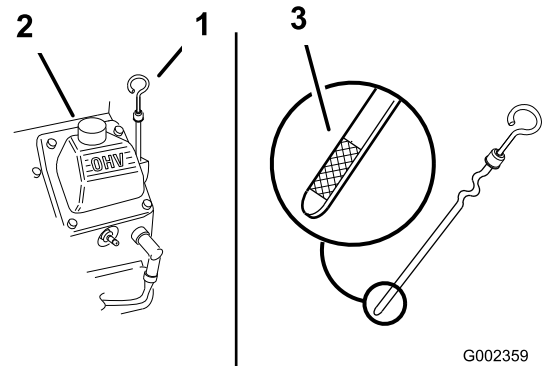

Figure 16
3. Clean around the oil dipstick (Figure 16) so that dirt cannot fall into the filler hole and damage the engine.
4. Unscrew the oil dipstick and wipe the end clean (Figure 16).
5. Slide the oil dipstick fully into the filler tube, but do not thread it onto the tube (Figure 16).
6. Slowly pour approximately 80% of the specified oil into the filler tube (Figure 16).